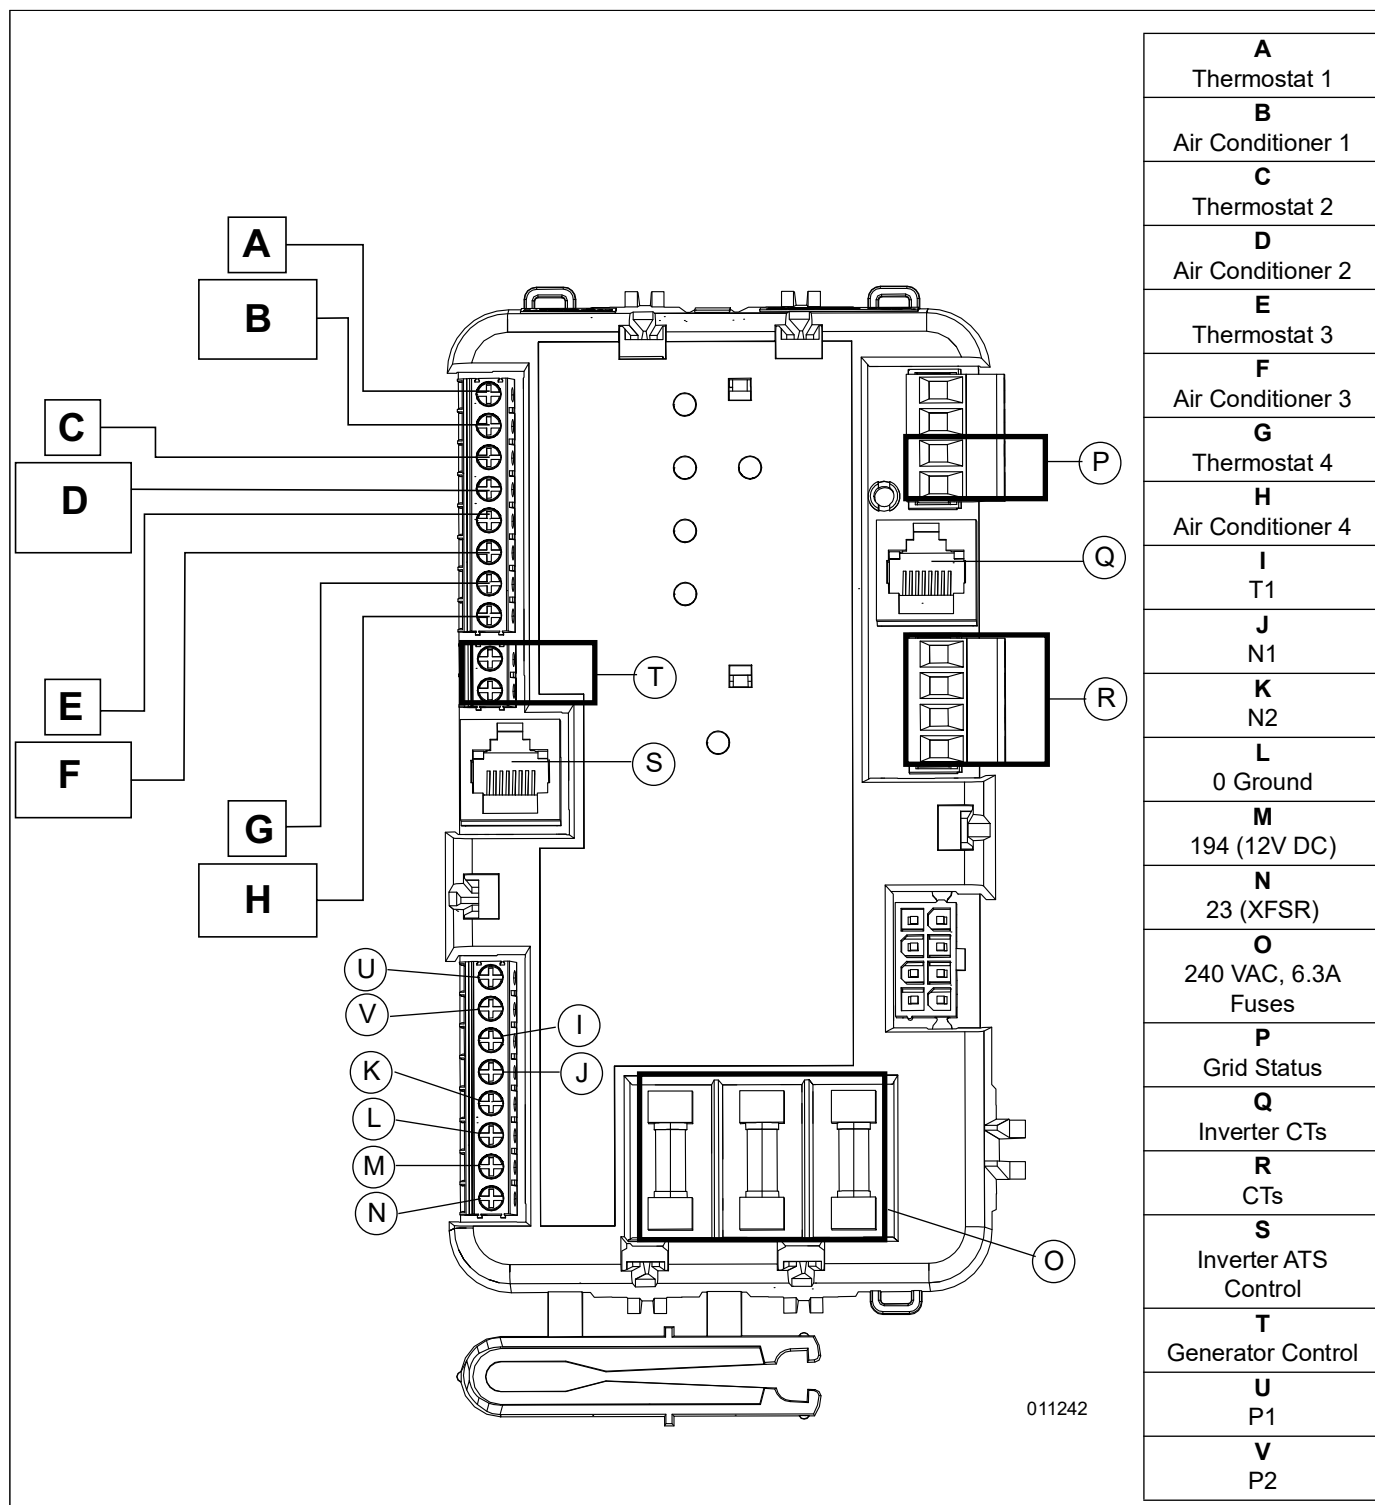
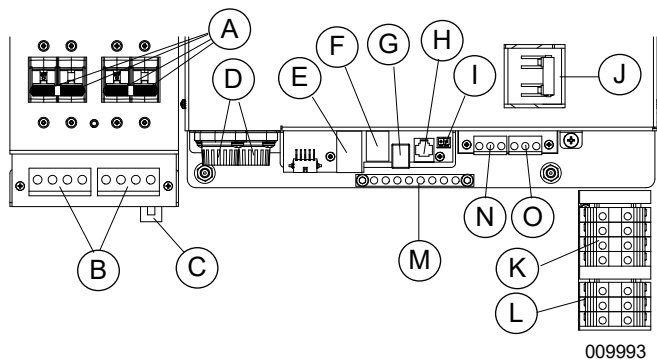
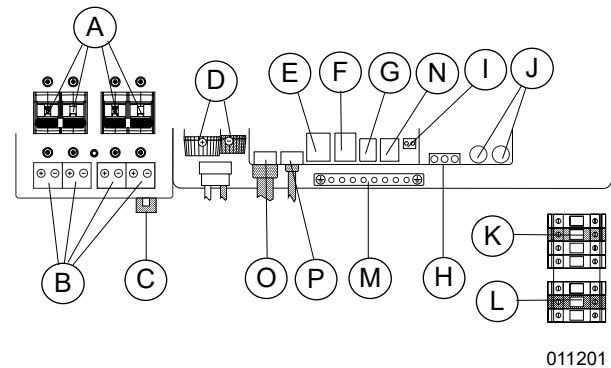

Figure 3-4. Controller Connections
Figure 3-5. Inverter Connections for X7602
Figure 3-6. Inverter Connections for XVT076A03
Use a minimum of a Cat 5 cable to connect the “Inverter ATS control” port on the controller to the “ATS” port on the Inverter. Use Cat 5 with 600 V insulation, and route away from the Utility and Inverter supply conductors. See NEC Article 725.136(D) for more information on the installation requirements. See Figure 3-4, Figure 3-5, and Figure 3-6.
Use a Cat 5 cable to connect the “Inverter CTs” port on the controller to the “CTs” port on the Inverter. Use Cat 5 with 600 V insulation, and route away from the Utility and Inverter supply conductors. See Figure 3-4, Figure 3-5, and Figure 3-6.
See Figure 3-4. The PWRcell ATS controller can control an air conditioner (24 VAC) directly.
2. Connect the wire to the terminal strip terminals (A/C 1) on the PWRcell ATS Controller as shown in Figure 3-4. These are normally closed contacts which open upon load shed conditions. Route thermostat wire away from high voltage wires.